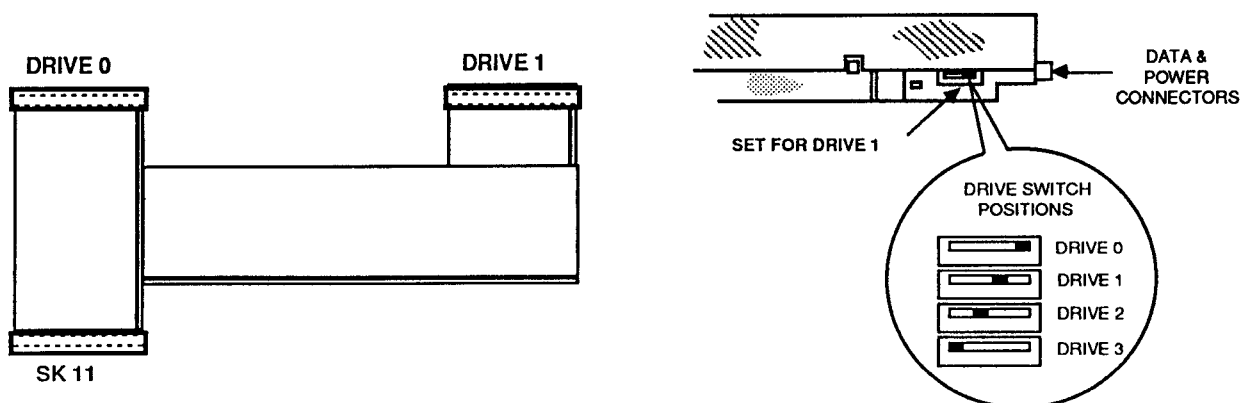

Fig. 3 – Dual drive data cable details & configuring the new drive as drive 1
3. Unplug and remove the ribbon-type data cable which connects between connector SK11 on the main printed circuit board and the connector on the rear of the original disc drive 0. Connect the centre connector on the new dual drive cable assembly to drive 0 and the end connector to SK11 (see Fig. 3).
5. Before fitting the new drive, it must be configured as drive 1. To do this, set the small slide switch on the side of the drive to position "1" (see Fig. 3).